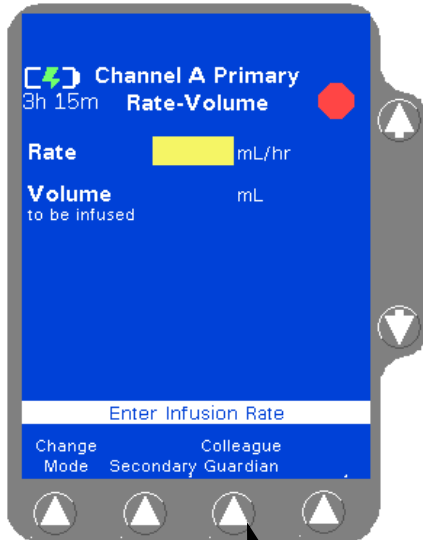

Figure 4-33 Colleague Guardian Soft Key
2. From the Programming screen, press the **Colleague Guardian** soft key (Figure 4-33).